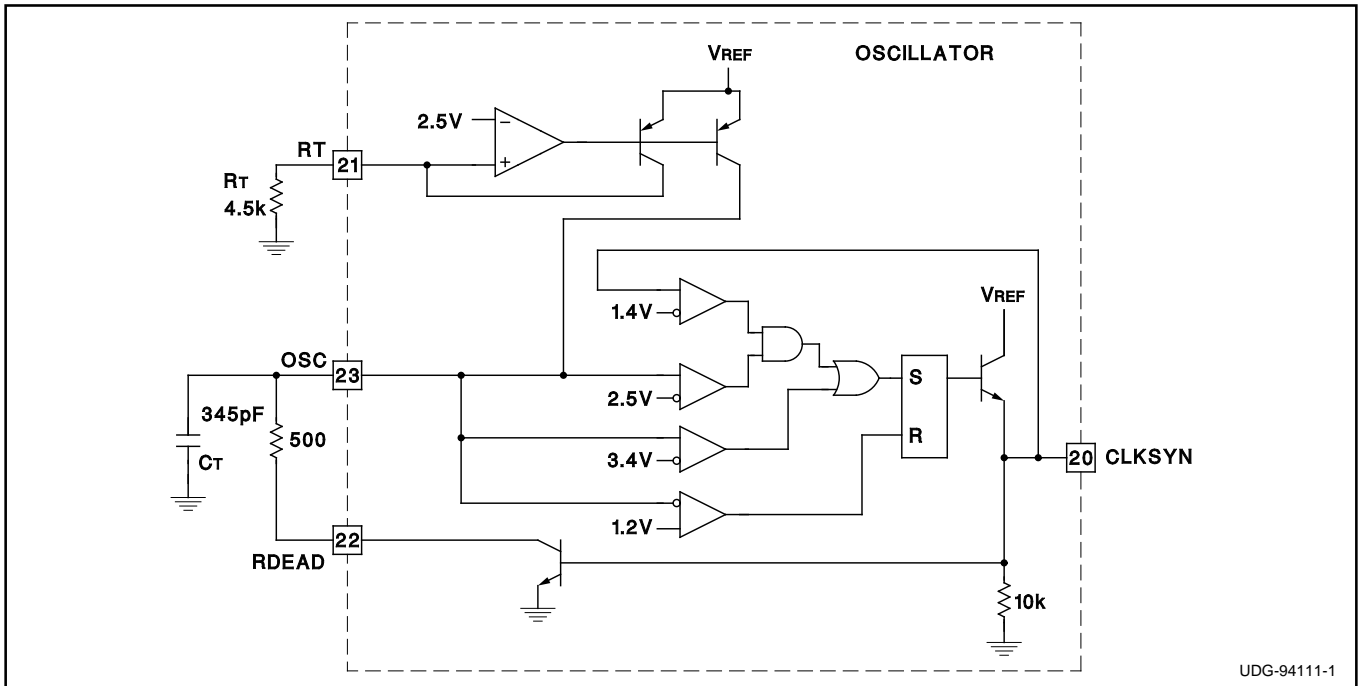

Figure 1. Oscillator Block with External Connections
PWM Oscillator: The oscillator block diagram with external connections is shown in Figure 1. A resistor (RT) connected to pin RT sets the linear charge current;
nized to the highest free running frequency by connecting 100pF capacitors in series with each CLKSYN pin and connecting the other side of the capacitors together forming the CLKSYN bus. The CLKSYN bus is then pulled down to ground with a resistance of approximately 10k. Referring to Figure1, the synchronization threshold is 1.4V. The oscillator blanks any synchronization pulse that occurs when OSC is below 2.5V. This allows units, once they discharge below 2.5V, to continue through the